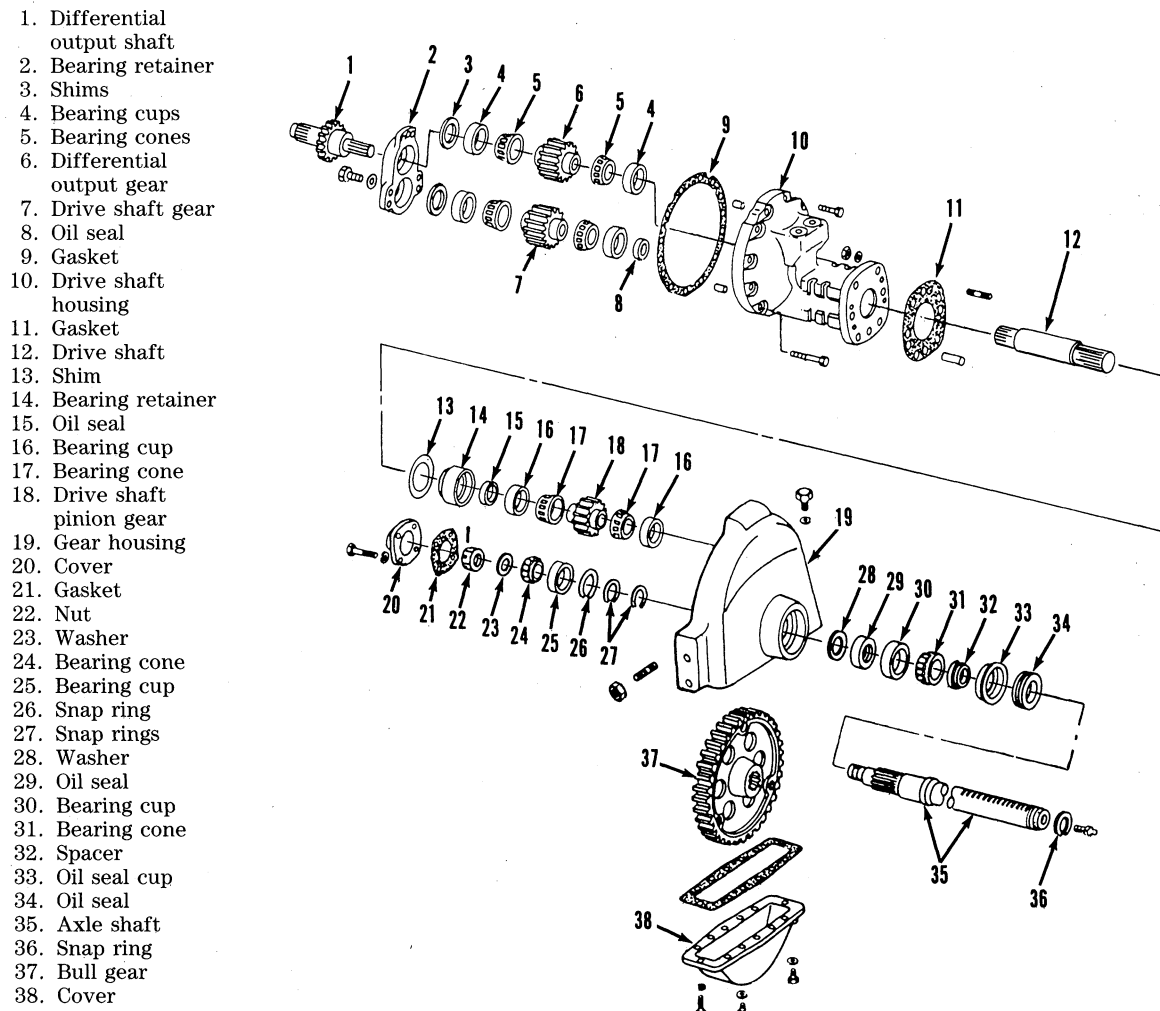
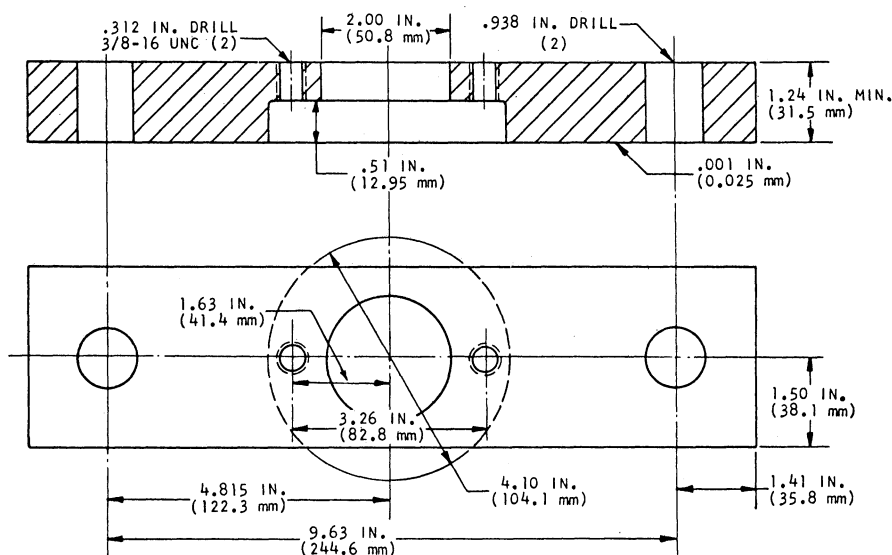
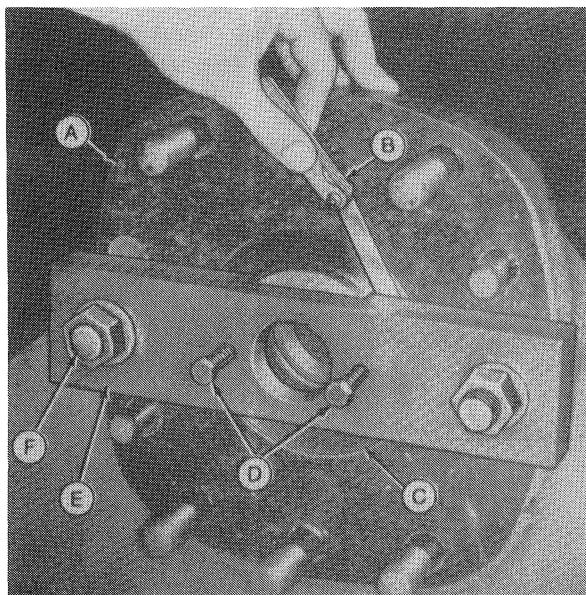

Fig. 196—Exploded view of high clearance final drive assembly which is available on some models.
Fig. 198—Special tool shown in Fig. 199 can be fabricated using dimensions shown.
Fig. 199—Refer to text for use of special tool necessary for determining correct thickness of shims (13—Fig. 196) required for assembly.
178. OUTER HOUSING AND GEARS. If only the outer housing, gears, shafts, bearings or oil seals are being serviced, the complete final drive assembly will not need to be removed. Suitably support the tractor and remove wheel and tire assembly. Remove draft lower link and drawbar from gear housing. Support gear housing (19—Fig. 196) with a suitable hoist, then remove stud nuts securing gear housing to drive shaft housing (10). Install cap screws into the two
To disassemble, remove drive shaft bearing retainer (14—Fig. 196) using a suitable puller. Remove bull gear cover (38) and axle shaft inner bearing cover (20). Insert a brass drift between gears to lock them, then remove inner bearing nut (22) and spacer (23). Protect threaded end of axle shaft, then tap on end of shaft with a soft hammer until shaft is free from inner bearing. Lift inner bearing cone out of housing, then unseat snap ring (26) on inner side of bull gear. Remove axle shaft and bull gear from housing. Remove drive shaft pinion gear (18).
When reassembling, heat outer spacer (32—Fig. 196) and outer bearing cone (31) to 300° F (150° C) prior to installation. Install spacer onto axle shaft with large OD outward. Allow spacer to cool, then
Selection of shims (13) requires using a special tool which can be fabricated using dimensions shown in Fig. 198. Install drive pinion retainer (14—Fig. 196) into housing until finished surface of retainer is flush with outer surface of housing. Position gasket (11) over studs, then install special tool over two studs as shown in Fig. 199. Tighten two stud nuts (F) to 250 ft.-lbs. (335 N·m) while making sure that screws (D) remain loose. Turn the drive shaft pinion using the drive shaft while tightening the two screws (D) evenly to 25 in.-lbs. (2.8 N·m). Use a feeler gage (B) to measure clearance between tool and machined surface of retainer (C). Remove tool and install shims (13—Fig. 196) equal to the measured clearance.
(1—Fig. 196). Remove the bearing retainer (2) and gears (6 and 7). Remove final drive shaft (12) from housing.
Illustration for Fig. 199 reproduced by permission of Deere & Company. Copyright Deere & Company.